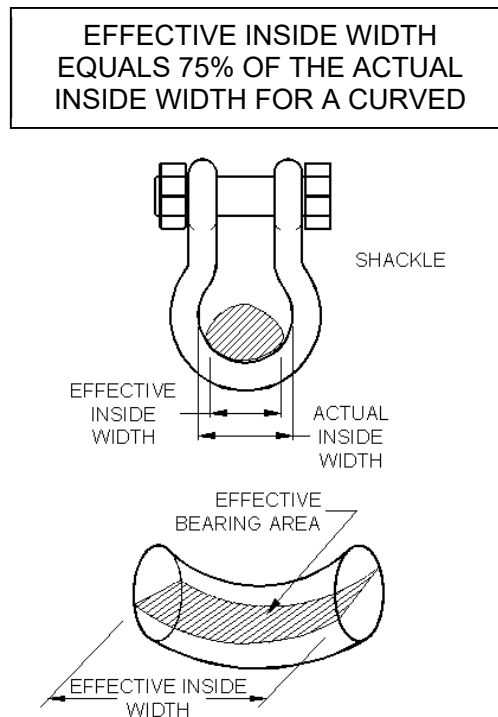

Figure 26
- b. *Connection to Round-Bottom (or Curved) Surfaced Hardware* – Hardware connections with curved shaped connections include links, hooks, and the bow ends of shackles. To determine the value of the effective contact width, multiply the inside opening width of the hardware by a factor of .75 (See Figure 26). For connections to the base of hooks, multiply the value of the radius at the hook base by a factor of 1.5 to determine the effective contact width. Please note, however, that the effective contact width will never exceed the natural flattening width of each sling, which are as listed in Tables 9 and 10 as the Minimum Effective Contact Width. For example, if a Size 2 polyester roundsling is connected to hardware that has a relatively large inside width, such as 4 inches, the effective contact width between the sling and hardware will not be higher than the natural flattening width of the sling, which is listed in Table 9 as being 1-3/8 inches.